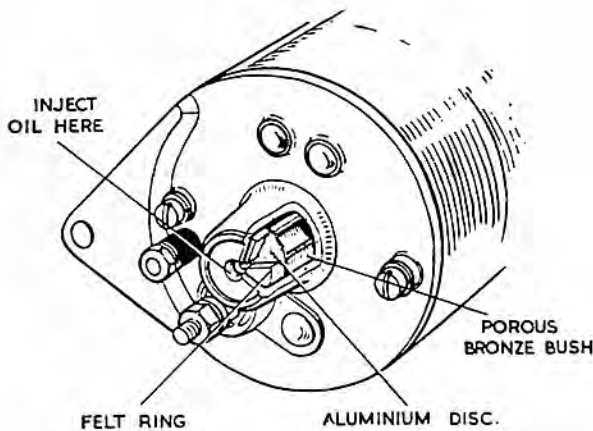

FIG. 7
- (vi) Refit the two through bolts. After reassembly lubricate the commutator end bearing. See Fig. 7.